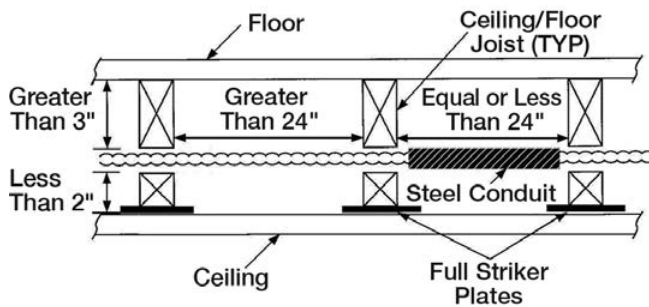

Fig. 4-44
- a) At concealed support points and points of penetration less than 2 inches from any edge of a stud, joist, plate, etc., a listed striker plate is required at the area of support to provide coverage for 5 inches from the point of restraint in one or both directions (Fig. 4-44).